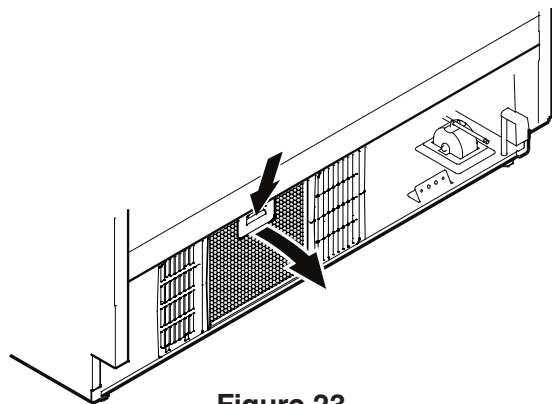

Figure 23
- Push down the button of the air filter, tilt to the front and remove - **Figure 23**.